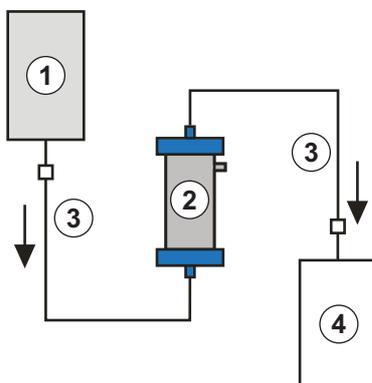

Fig. 10-10 Set-up for heparin adsorber rinsing
Materials: See legend to Fig. 10-10
2. Attach the second connection line and the collection bag as shown in Fig. 10-10 with outlet side of the heparin adsorber.